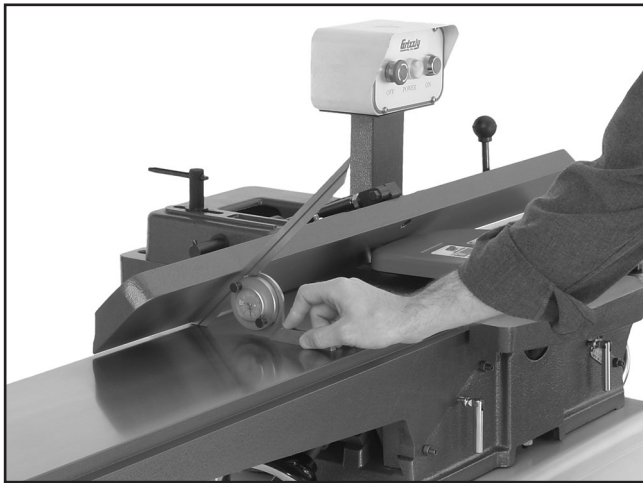

Figure 58. Example of adjusting fence 45° inward.
- Using a 45° square, adjust the fence to the 45° inward position, as shown in **Figure 58**.